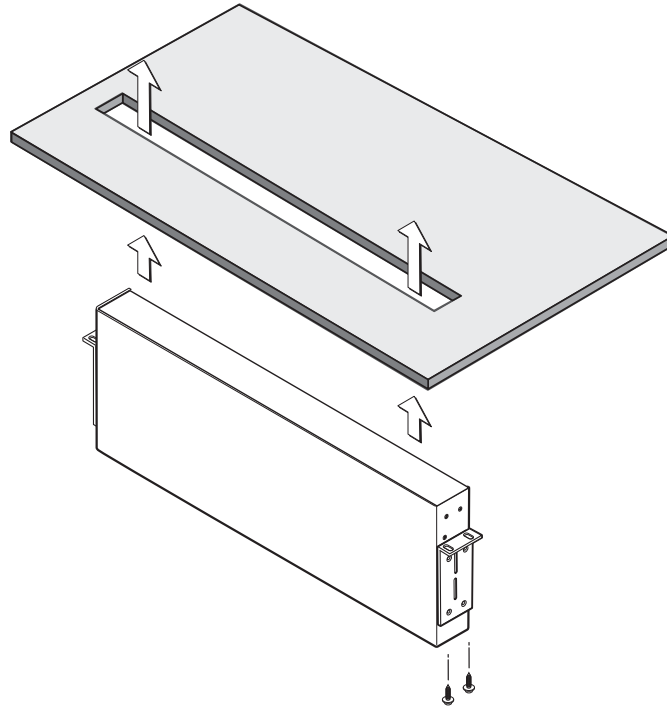

Figure 2-2 — Through desk mounting a PIP
3. Cut the proper sized hole in the mounting surface (figure 2-2).